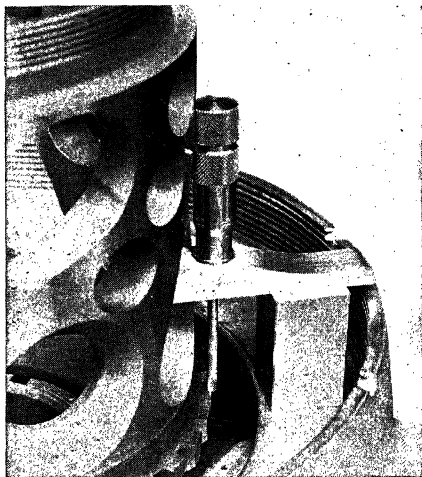

FIG. 47.—Determining pre-load on gears.
3. Using a depth gage with the aid of a size block, measure the distance from the upper surface of the barrel dome shelf to the cam ball-bearing race shoulder on the cam just above the gear teeth at three different points around the cam. Average these three readings (Fig. 47).